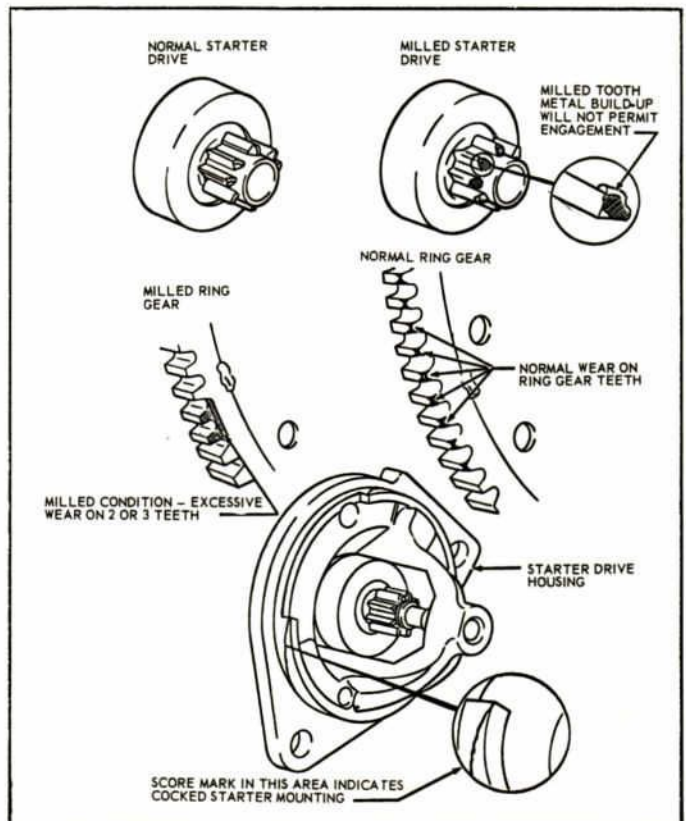

Figure 5—Starter Engagement
2. Examine starter drive housing pilot surface for scar marks indicative of cocked starters—See Figure 5. Unless casting is cracked, drive housing may be reused.
4. Examine all teeth of ring gear and replace if a broken tooth condition exists or if milled as shown in Figure 5.